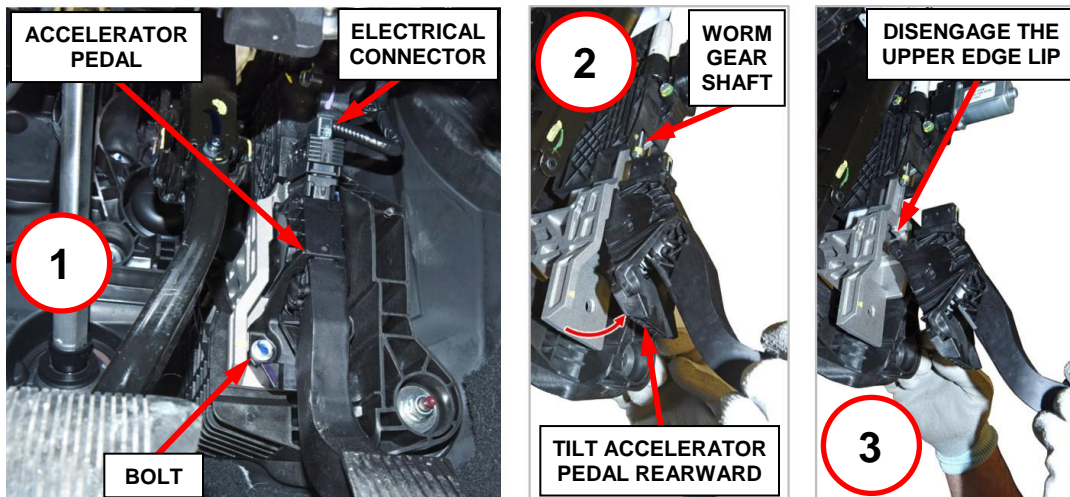

Figure 6 – Remove Accelerator Pedal to Expose Worm Gear Shaft
- 4. Remove the one bolt securing the accelerator pedal (Figure 6).
- 5. Tilt the accelerator pedal to release, then remove the pedal (Figure 6).